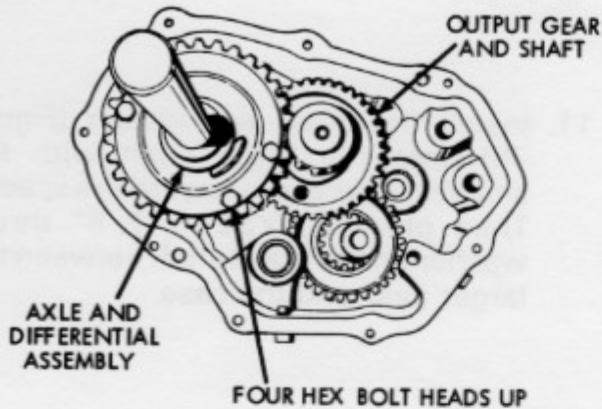

Figure 73 - Install Differential
4. Install the differential assembly (Figure 73) into the cover with the bolt heads up toward the case.